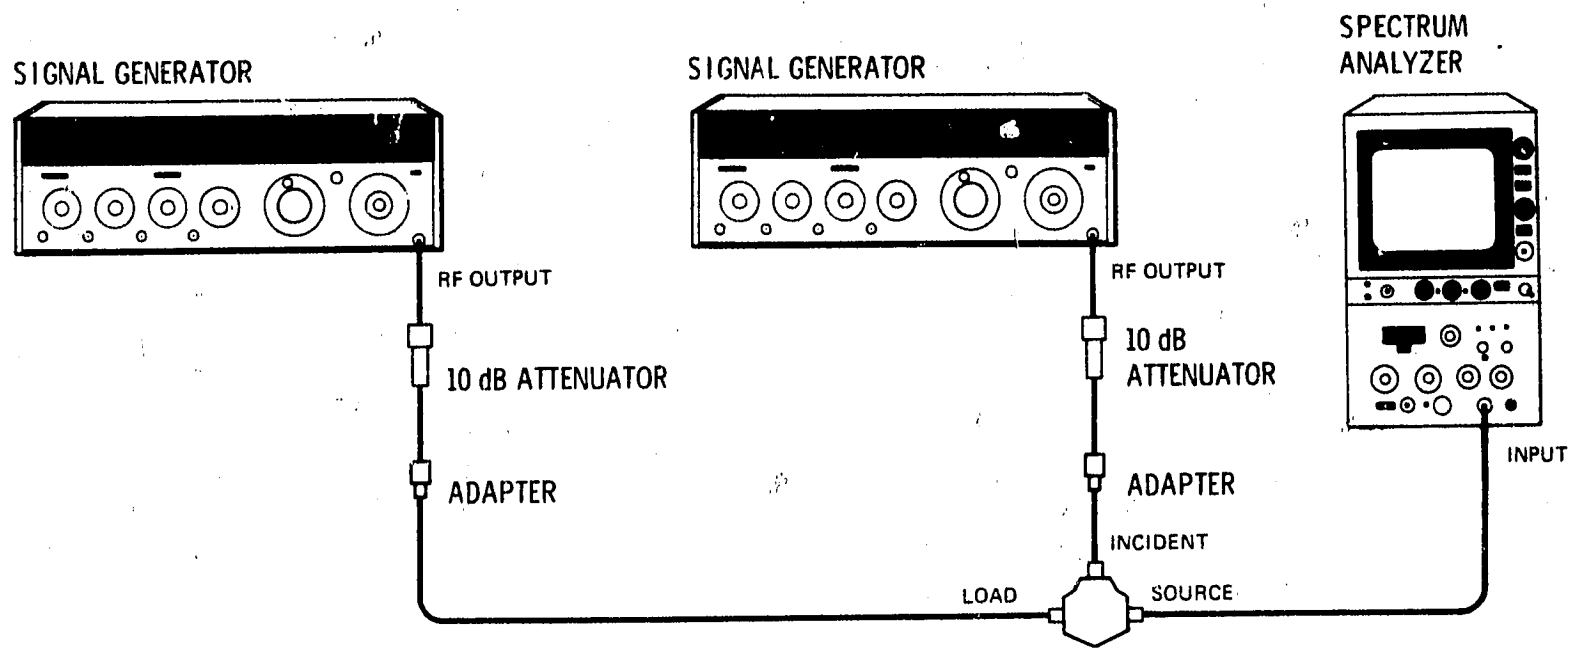

Figure 4-15. Intermodulation Distortion Test Setup
13. Connect equipment as shown in Figure 4-15 and repeat step 1 setting TUNING control to 30 MHz rather than 50 MHz.